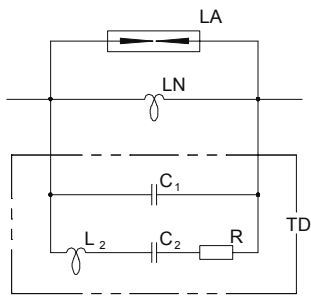

Figure 1a. Typical Circuit
- 4.1 The schematic of wide-band tuned line traps is shown in Fig. 1a and 1b. Though in practice, there are many kinds of tuning circuits, for example, narrow-band (single frequency) tuning double frequency tuning, etc. The wide-band type of tuning is the most practical because of its flexibility.